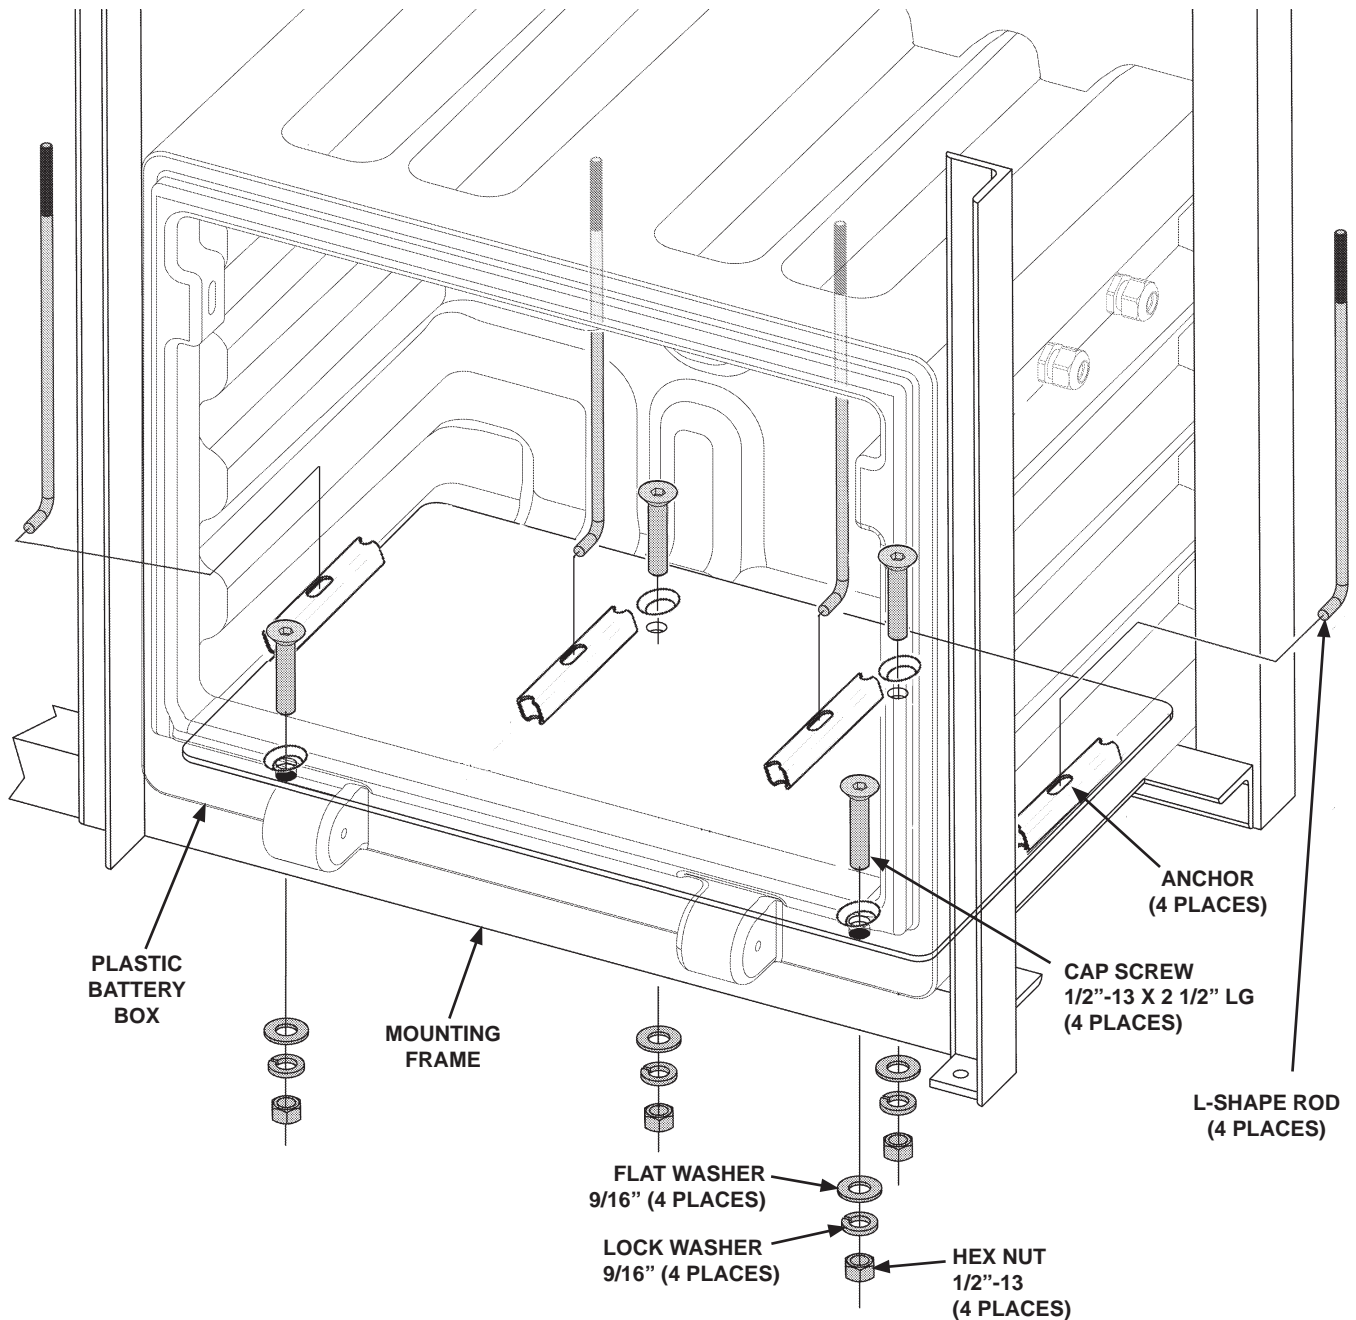

FIG. 5-1
1. Bolt battery plate (kit item) to battery box and mounting frame as shown in **FIG. 5-1**.
2. Insert 4 L-shape rods (kit items) in the anchors on the battery plate (kit item) in **FIG. 5-1**.